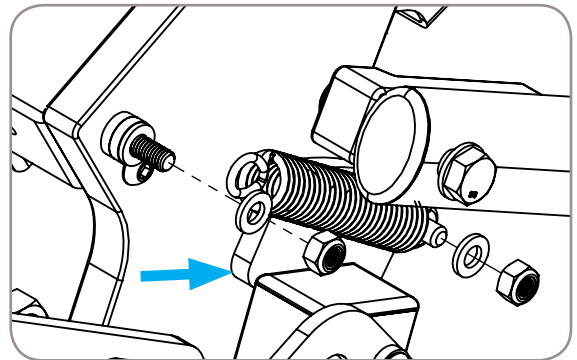

Figure 20
2. Unhook spring eyelet from bolt and slide plate forward to access lower bolt head on backside of plate, Reference Figure 20. Remove Lower nut and washer.